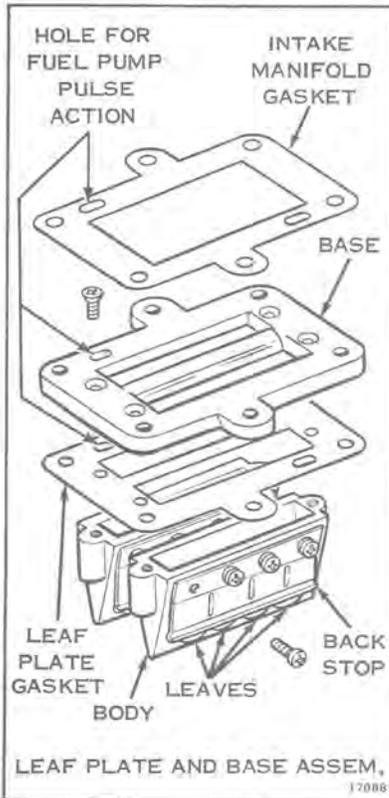

Figure 6-7
- a. Remove the idle speed mixture screw (14), washer and tension spring. Inspect for damaged threads (see Figure 6-7).
- b. Remove the metering diaphragm cover (29), the metering diaphragm (28), and gasket (27). Inspect the cover for nicks, dents, or cracks that might hamper operation. Inspect the metering diaphragm; the center plate must be riveted securely to the diaphragm and the diaphragm should be free of holes and imperfections. The gasket should be replaced if there are holes or creases on its sealing surface. The parts must be reassembled in the correct order. The gasket should be assembled onto the carburetor body casting first, then the metering diaphragm is assembled next to the gasket.
- c. Remove the hinge pin retaining screw (25), the hinge pin (23), inlet control lever (26) and the inlet tension spring (24). Use caution in removing these parts. Spring pressure may push the inlet control lever out of the casting. Inspect the parts for wear or damage. The inlet control lever must rotate freely on the hinge pin.
- e. Remove the inlet needle (22). Remove the inlet seat assembly using a 3/8-inch thin wall socket. Remove the inlet seat gasket.
- c. Inspect the leaf valve assembly and disassemble if necessary (see Figure 6-7). Special caution is necessary in disassembling the leaf valve assembly. DO NOT damage or interchange the leaves.
- a. Secure leaf plate assemblies to base, using a new leaf plate gasket coated with Gasket Sealing Compound #317201. Align leaf plate and base assembly on crankcase. Install intake manifold on crankcase using a new intake manifold gasket. Be certain that elongated hole in base plate aligns with passage in intake manifold. See Figure 6-7. Obstruction of this passage will prevent fuel pump operation via the pulse line. Fasten with screws and lockwashers.